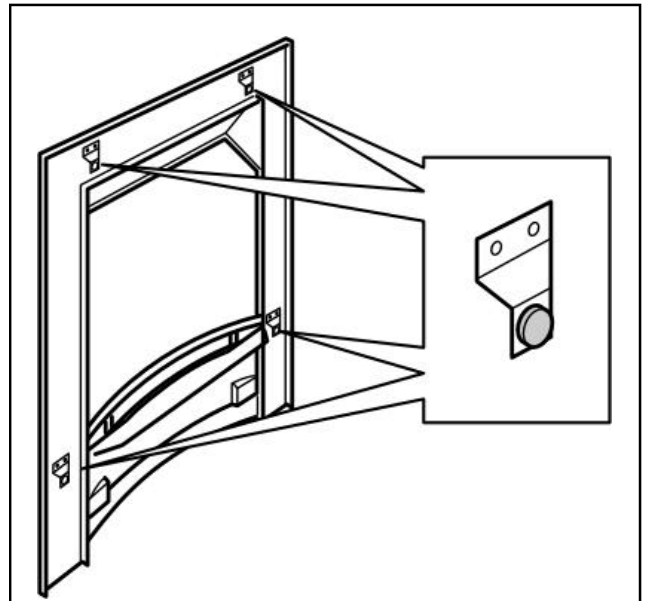

Figure 15. Magnet locations for Adage and Ocean models
1. Removing the fascia may have moved the magnets used to fix the fascia to the heater. There should be a magnet on each of the four raised tabs on the rear of the fascia (See figure 15).